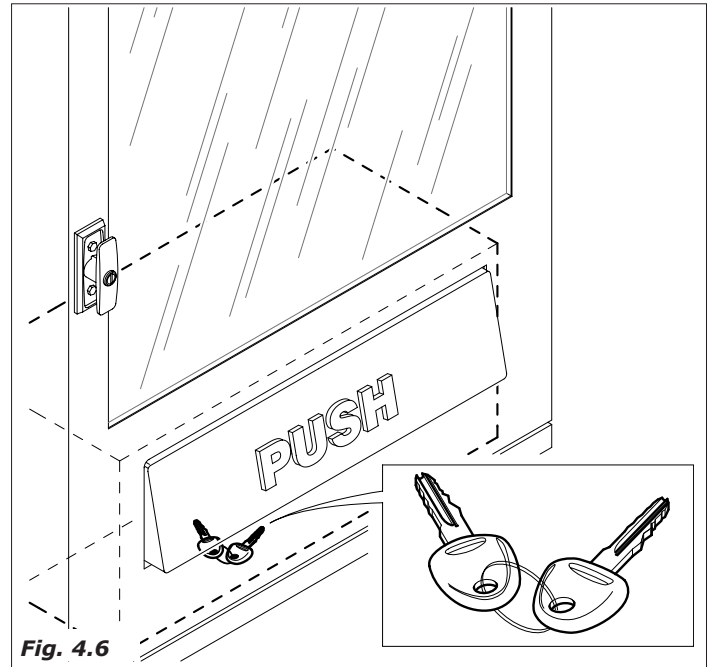

Fig. 4.6
- remove the key from the drink dispensing chamber (Fig.4.6).